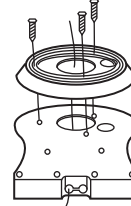

Fig 2
3. Use three Ø3.5_16mm screws to hold the plastic mounting pedestal on the plastic wall mounting bracket as shown in Fig.2 (please don't forget to put the water-resistant "O" ring seal on the base of the plastic mounting pedestal). Pull and adjust the cables to suitable length. Then use six Ø3.5_8mm screws to hold the upper part & lower part of the plastic wall mounting bracket together.